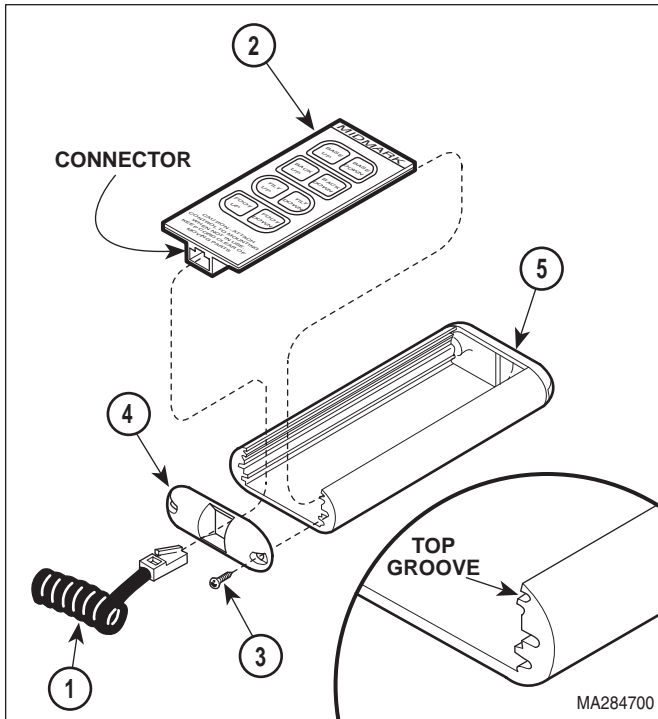

Figure 4-28. Hand Control Panel Removal / Installation
- (1) Disconnect coil cord (1, Figure 4-28) from hand control panel (2).
- (2) Remove two screws (3) and bottom end cap (4) from hand control tube (5).
- (3) Remove hand control panel (2) from hand control tube (5).